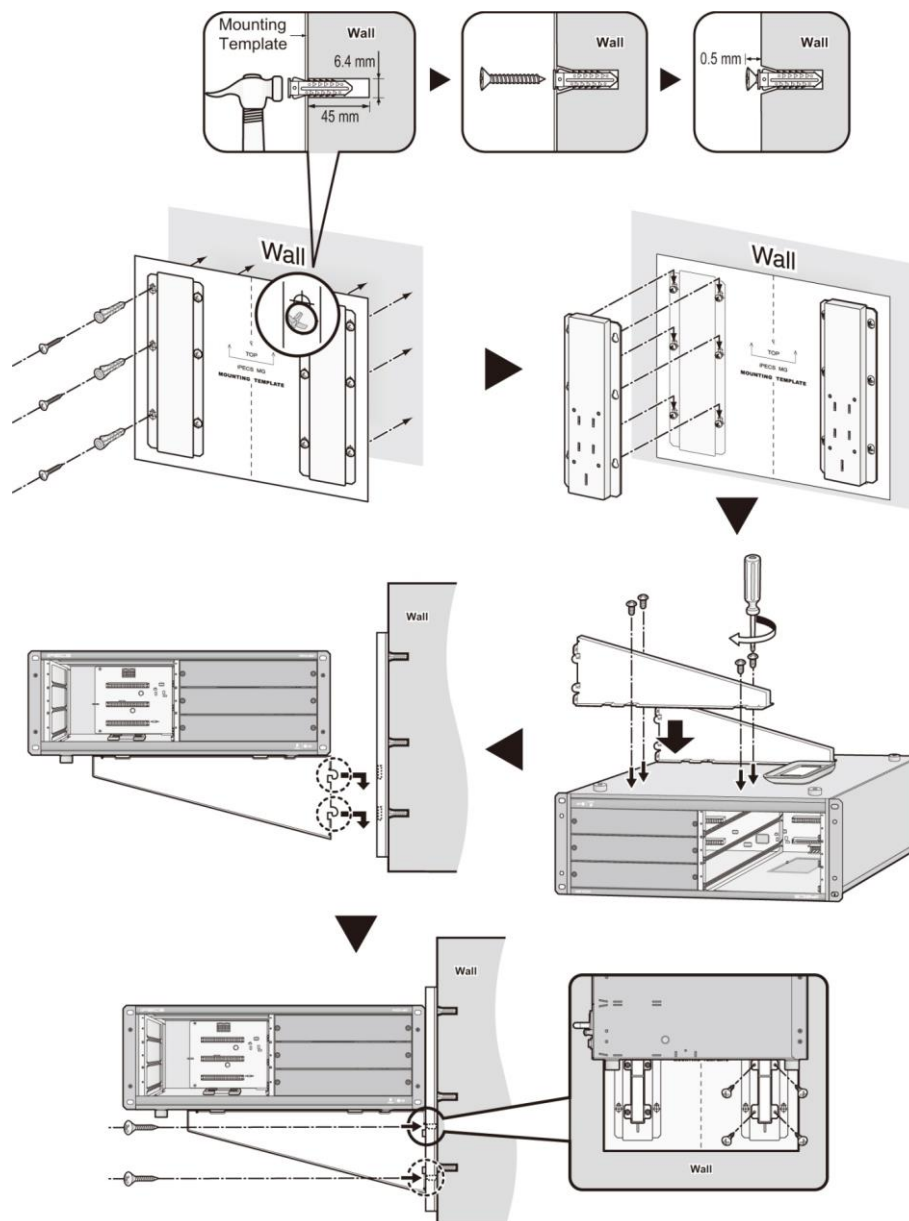

Figure 3.4.2-1 Wall Mounting
- 2) Install 12 anchor plugs into the wall using the mounting template (Figure 3.4.2 1 Wall Mounting).
- 6) Install the Rack Mount brackets to each side of the KSU with the eight (8) screws provided.
- 7) Attach the Wall Shelf brackets to the bottom of KSU and affix using the eight (8) screws provided.
- 9) Affix the Wall Shelf brackets to the Wall Bracket using the four (4) screws provided.